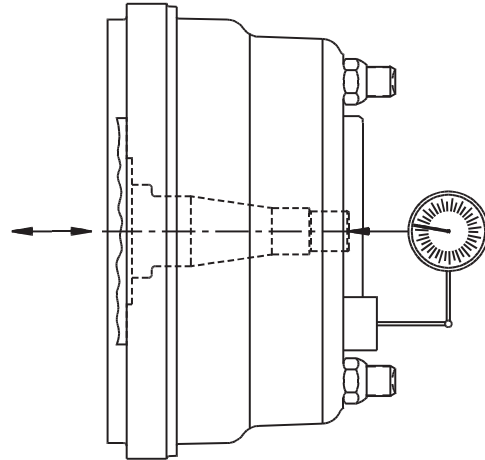

Figure 10 - Wheel End Play Measurement
5. Place the tip of the dial indicator on the center of the steering knuckle spindle. Set the dial indicator on zero. (See Figure 10).
6. Measure the end play by simultaneously pushing/pulling on each side of the tire, drum, or hub while observing the dial indicator. The end play is the total travel observed. If the end play is not within .001-.004 inch for WF and .001-.005 for WF95, adjust the wheel bearings (See Figure 10), otherwise skip to step 21.